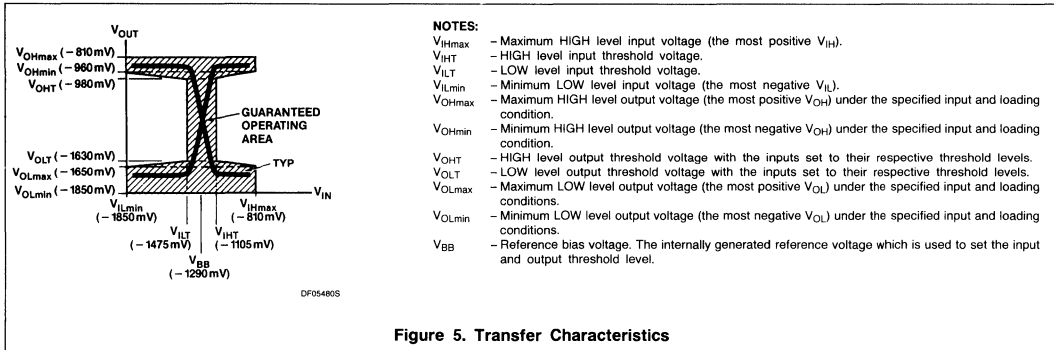

Figure 5. Transfer Characteristics
- The specified limits shown in the DC Characteristics can be met only after thermal equilibrium has been established. Thermal equilibrium is established by applying power for at least 2 minutes while maintaining transverse air flow of 2.5meters/s (500 linear feet/min) over the device either mounted in the test socket or on the printed circuit board. Test voltage values are given in the DC Operating Conditions and defined in Figure 5.